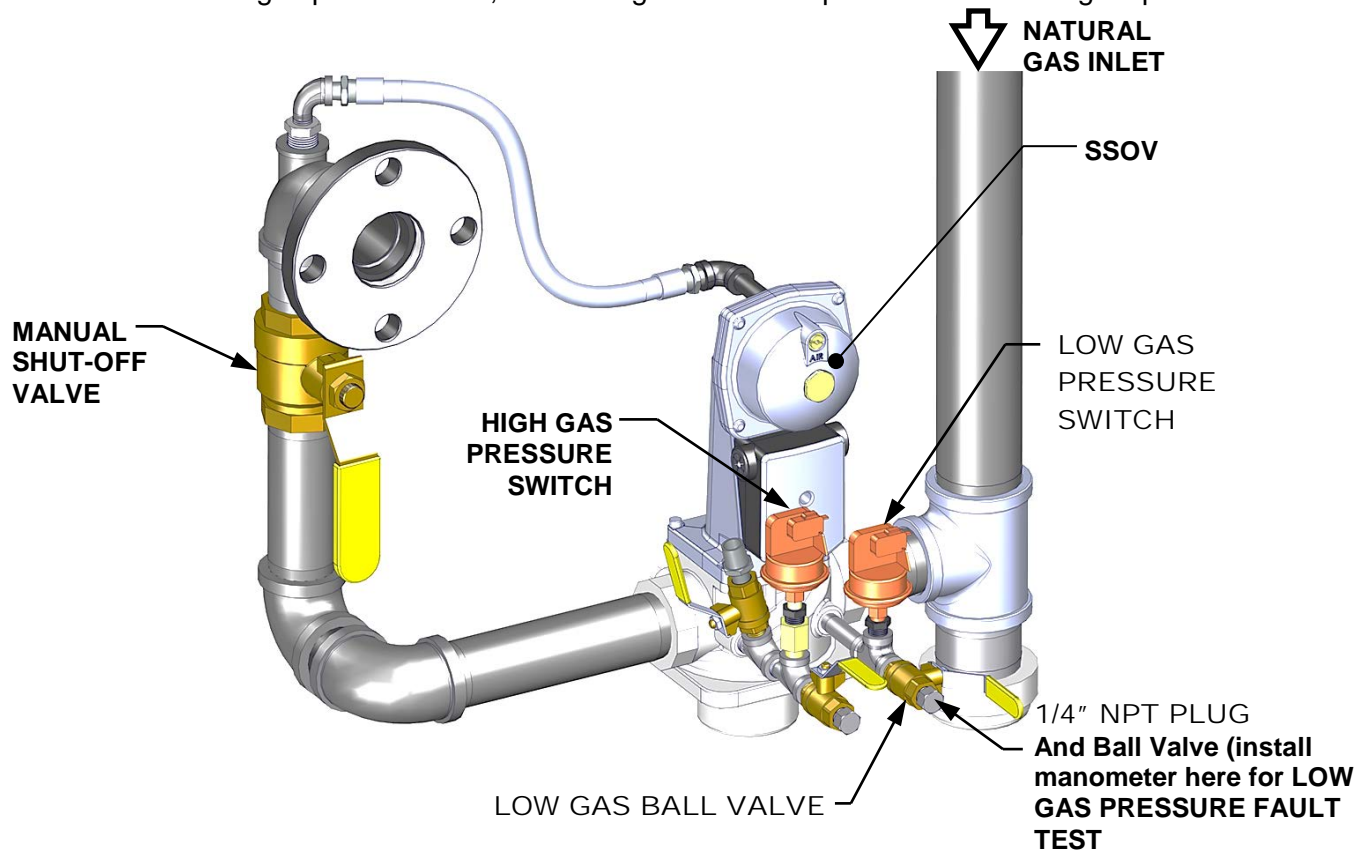

Figure 6-1a: BMK 1500/2000: *Low Gas Pressure Test*
To simulate a low gas pressure fault, refer to Figure 6-1a and perform the following steps:
1. Close the leak detection ball valve located at the low gas pressure switch (see Figure 6-1a).
2. Remove the 1/4" plug from the ball valve at the low gas pressure switch shown in the lower portion of Figure 6-1a.